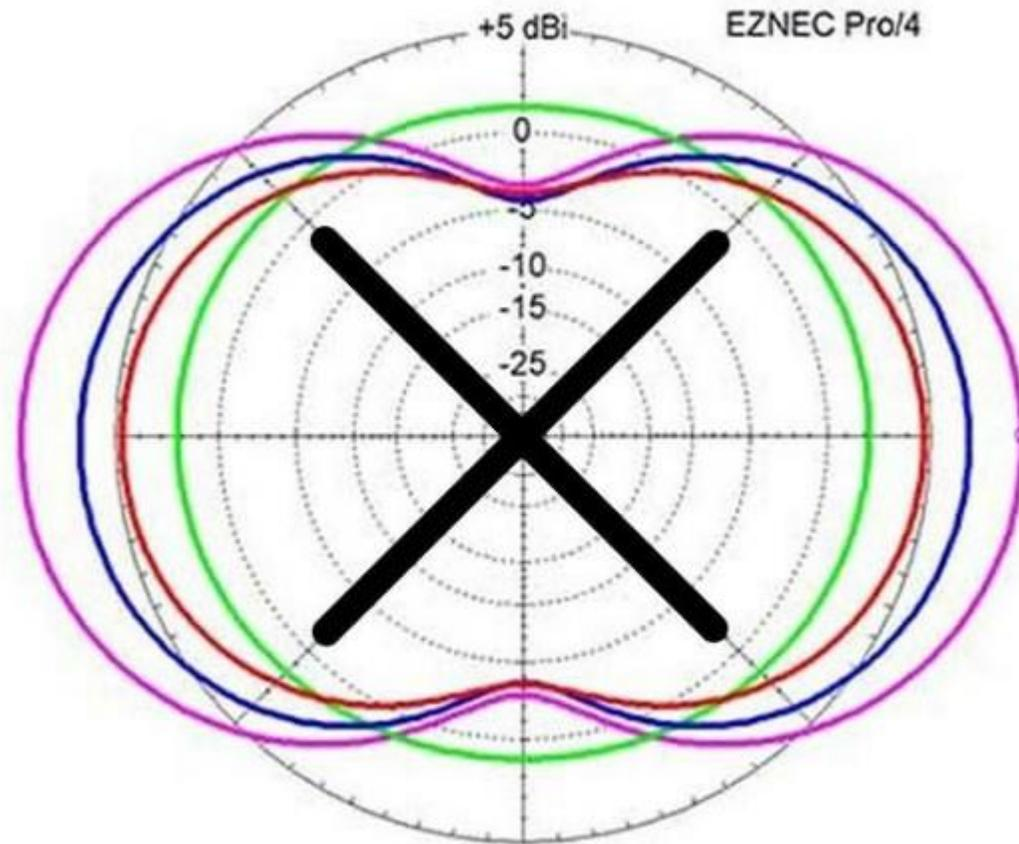

Figure 15-2: EZNEC azimuth radiation patterns: 80m (green), 40m (red), 20m (blue), 10m (violet). Gains in dBi.
- Azimuth Gain Figure 15-2: EZNEC azimuth radiation patterns: 80m (green), 40m (red), 20m (blue), 10m (violet). Gains in dBi.